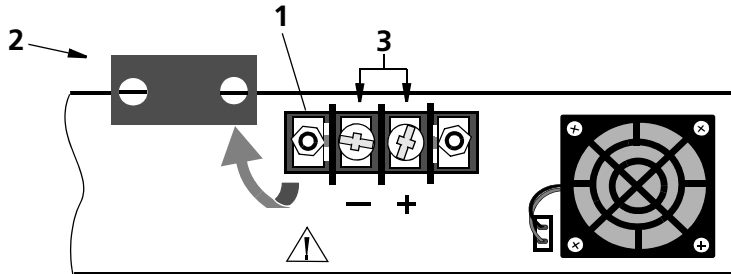

Figure 4-4. DC Power Supply Terminal Block
1. Locate the terminal block assembly (1) on the rear of the unit and remove the clip-on protective cover (2) as shown in Figure 4-4.